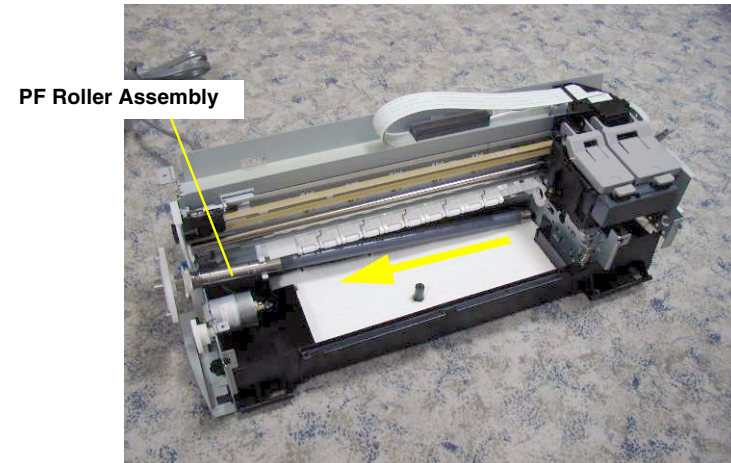

Figure 4-60. Removing the PF Roller Assembly
- 15) Slide the PF Roller Assembly to the left side carefully and pull it out from the Printer Mechanism. Refer to Figure 4-60.